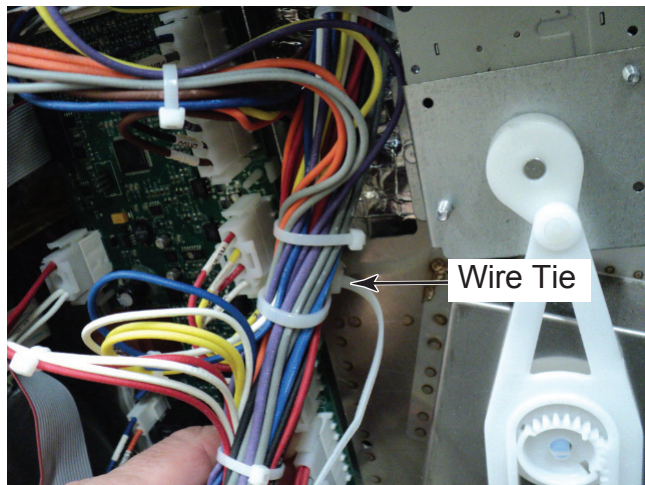

Figure 1
2. Remove wire tie that secures the main harness to the wave guide (Figure 1).